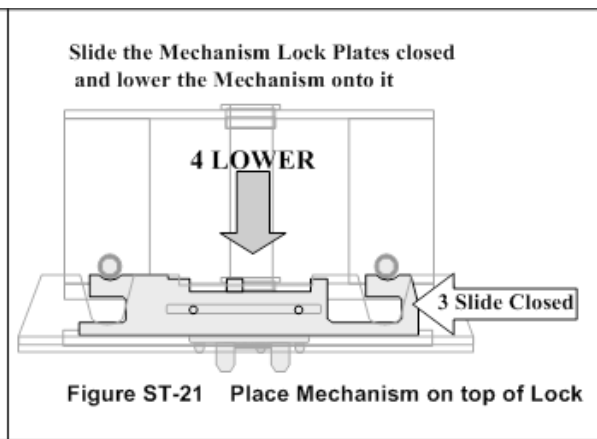

Figure ST-21 Place Mechanism on top of Lock
- Slide the tabs back to closed position and gently set the mechanism on it as shown in **Figure ST-21**.